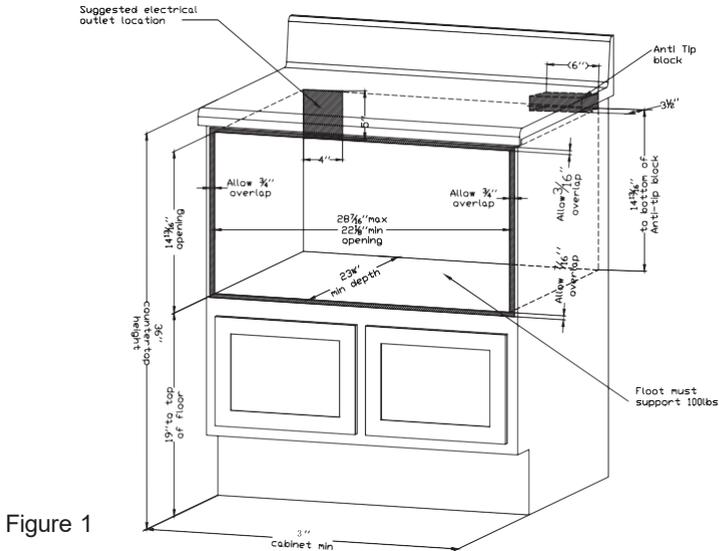

Figure 1
- Dimensions that are shown in Figure 1 must be used. Given dimensions provide minimum clearance. Locate the electrical outlet in the shaded area in the upper left-hand corner of the cutout.
Figures 1 and 2 contain many Microwave Drawer measurements for reference when planning the drawer's location. This Microwave Drawer can be installed below any electric or gas wall oven.
To reduce the risk of tipping over the drawer, the Anti-Tip block must be properly installed and located 14 inches above the floor on which the Microwave Drawer will sit. The 6-inch Anti-Tip block must be provided by the installer. See Figures 1 and 3. The Anti-Tip block prevents serious injury that might result from spilled hot liquids. If the Microwave Drawer is ever moved to a different location, the Anti-Tip block must also be moved and installed, when installed to the wall make sure that the screws completely penetrate the drywall and are secured in wood or metal so that the block is stable. When fastening, be sure that the screws do not penetrate any electrical wiring or plumbing. The electrical requirements are a 120-volt 60 Hz, AC only, 15 amp. or more protected electrical supply. It is recommended that a separate circuit serving only this appliance be provided.